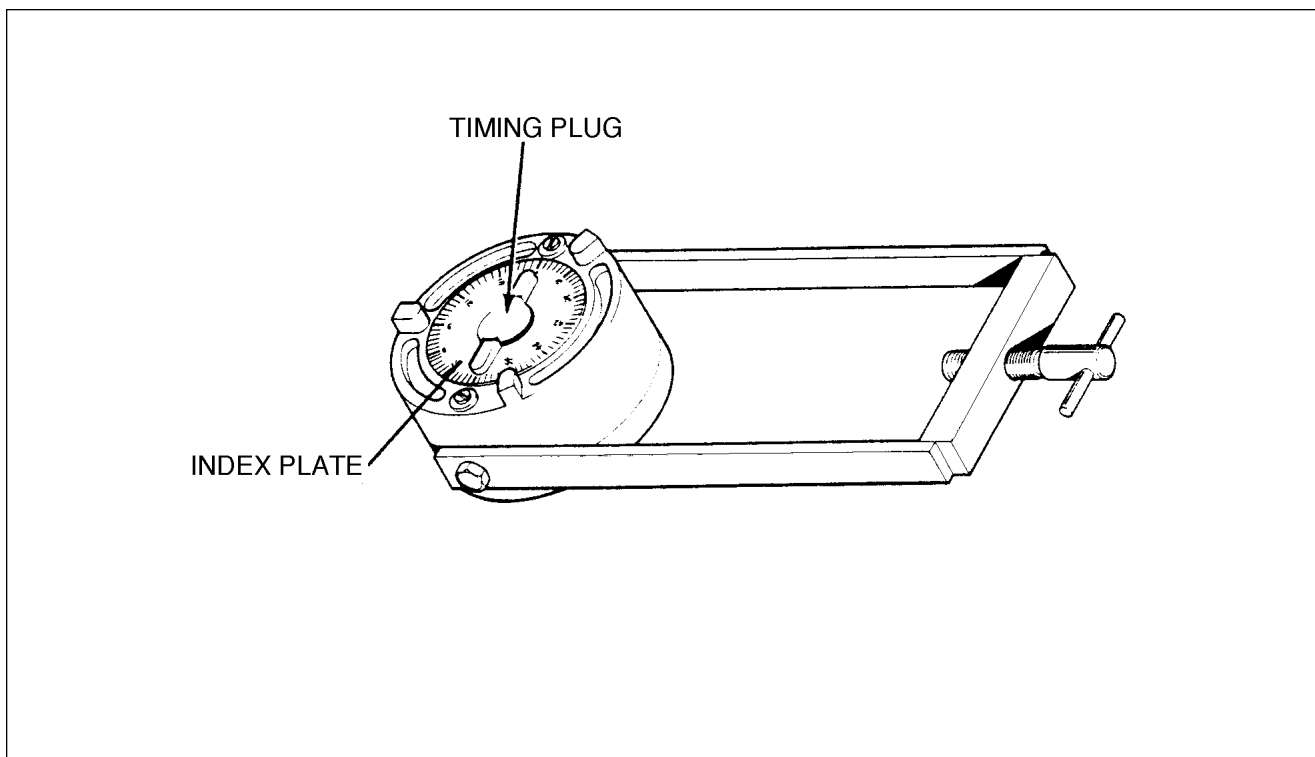

Figure 8-10. Index Plate and Timing Plug
### 8-26. ASSEMBLY OF 4200/4300 SERIES MAGNETOS. (Refer to Figures 8-10 thru 8-13.)
*Before using the slick T-100 assembly and timing tool it will be necessary to align the index plate (bottom of tool) to number 67 to time the magneto, (Refer to Figure 8-10.)*